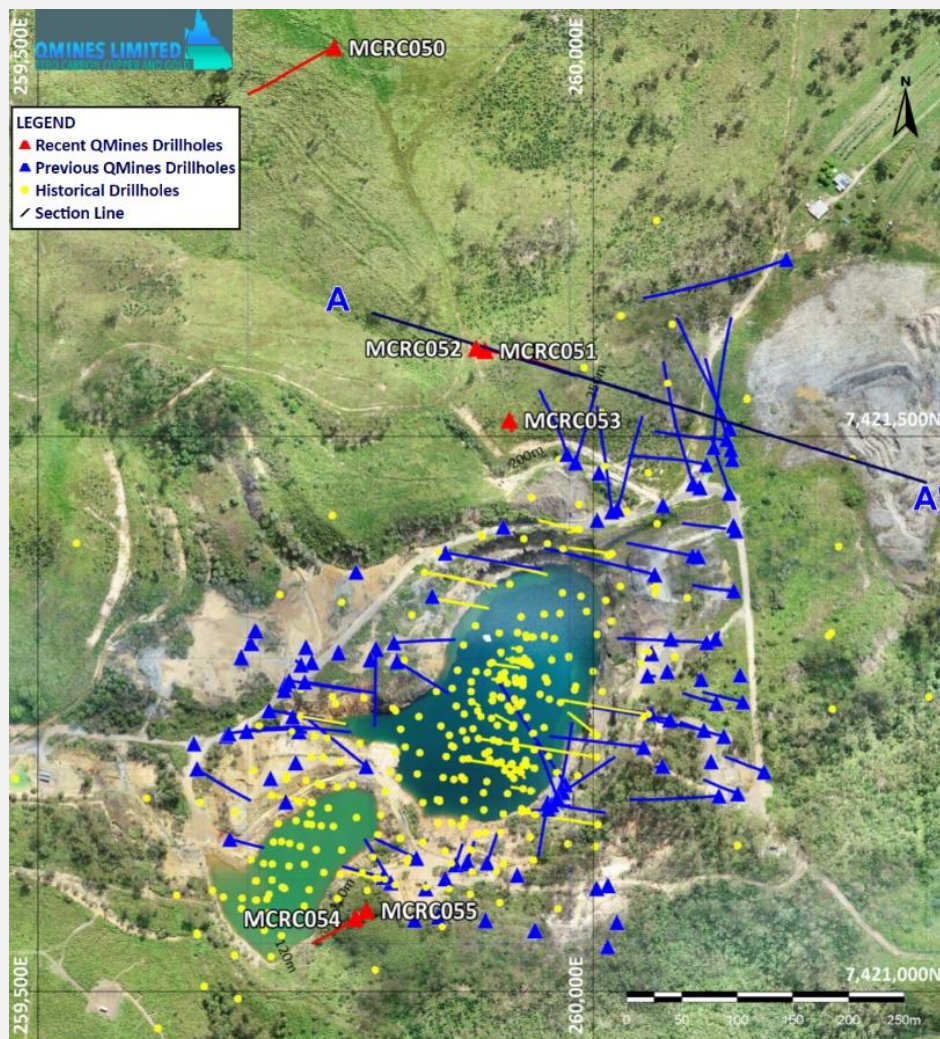
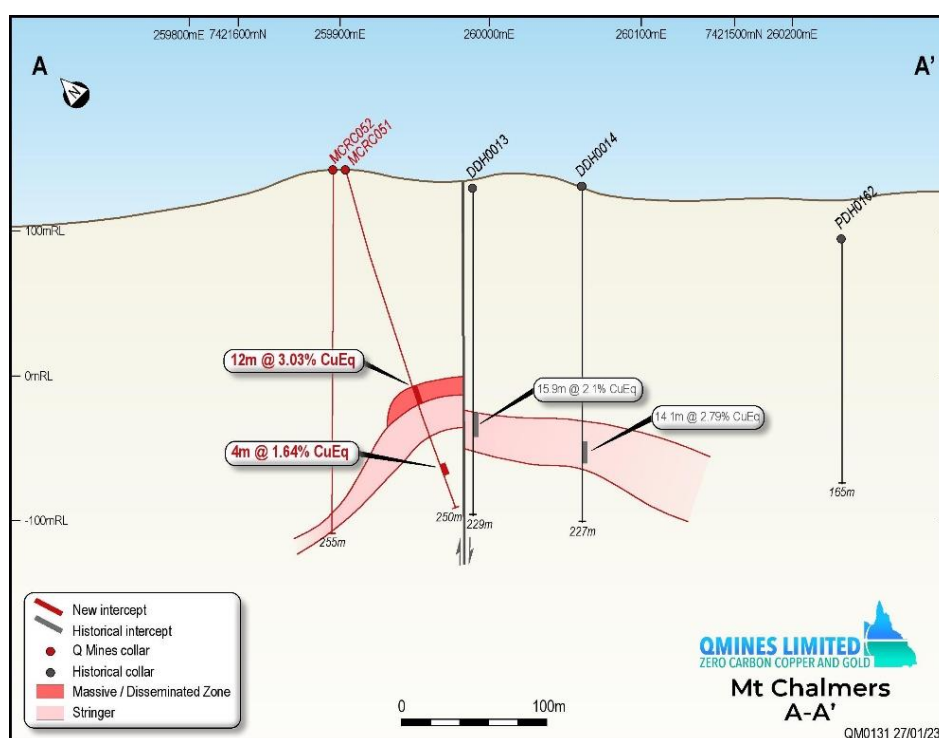

Figure 2: Mt Chalmers RC drillhole collar locations from November 2022 drilling.
Figure 3: Section AA' Mt Chalmers November drilling 2022.
The Company completed a six-hole reverse circulation (RC) drilling program at Mt Chalmers for 1,190 metres at the end of November 2022. With the Mt Chalmers third and fourth Mineral Resource Estimate (MRE) delivered in November, this recent round of drilling aimed to test more distal extents of the deposit. Base and precious metal results from this drilling can be seen in Table 1, drill collar locations in Figure 2 and cross section AA' in Figure 3.